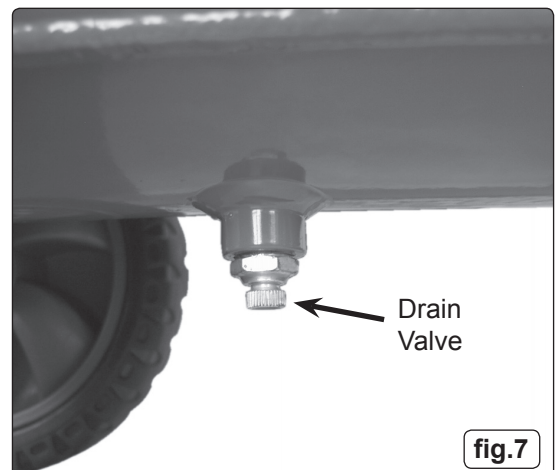

fig.7
- a) Drain condensation by opening the valve located under the tank (fig.7). Place a container under the valve and open the valve by turning anticlockwise.